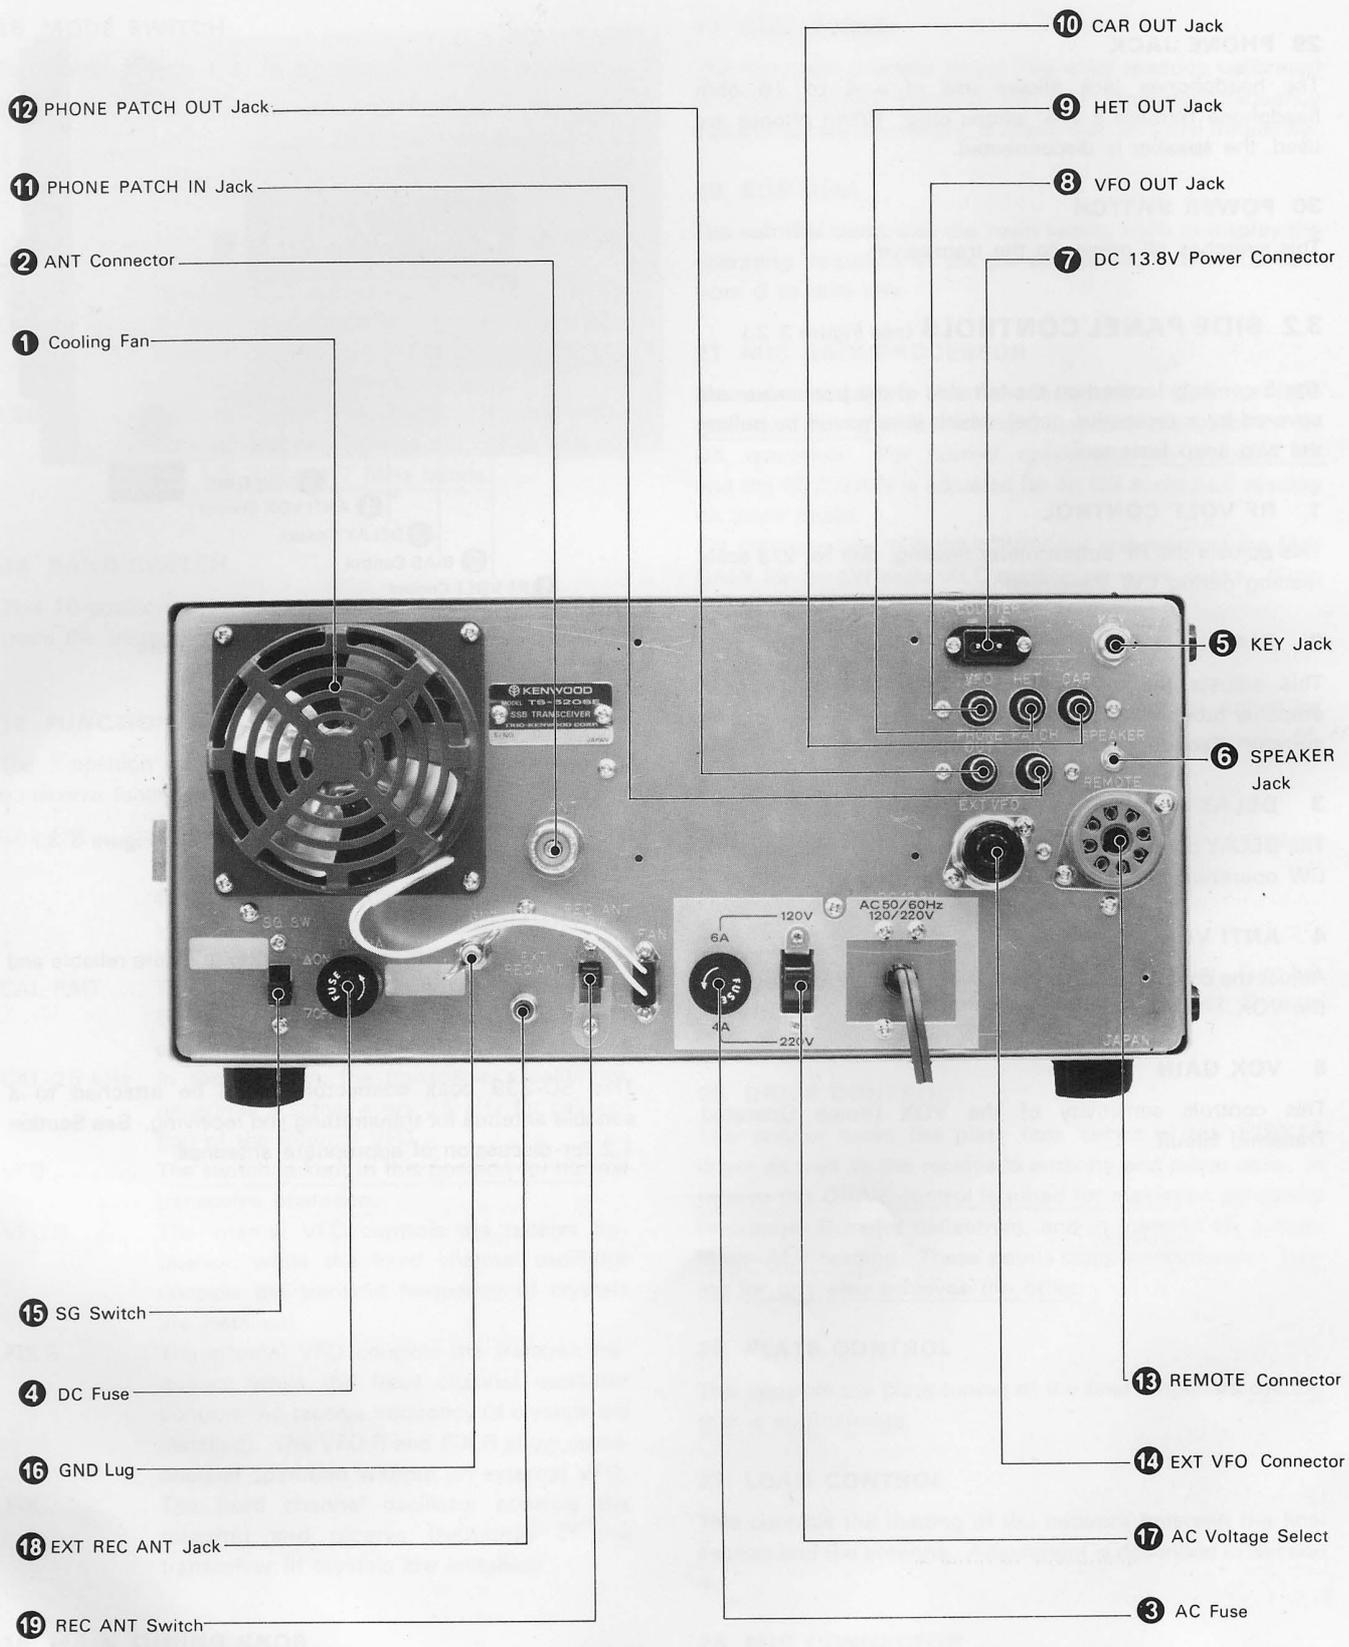

Fig. 3-3 Rear Panel Controls
3.3 REAR PANEL CONTROLS (See Figure 3-3.)